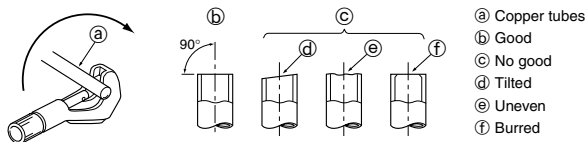

Fig. 5-2
5.2.1. Pipe cutting (Fig. 5-2)